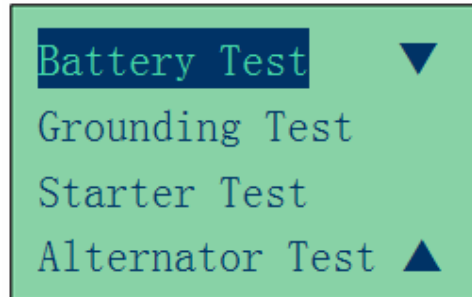

Figure 33
1. After you have made your choice, selecting “New->Clear Memory” or “Last->Continue” will proceed to the display below: (Fig. 33)